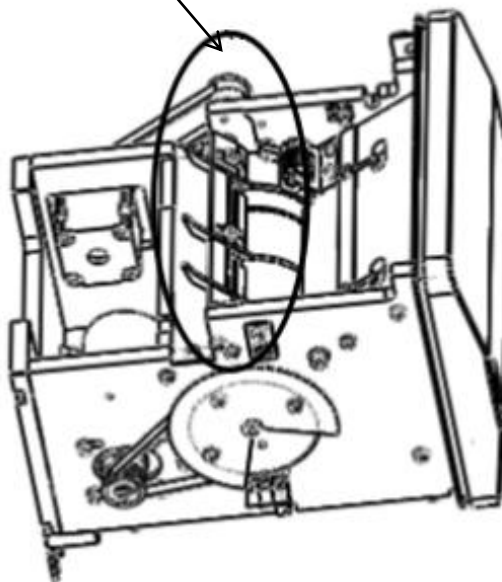

Figure 5-13
- 2) Clean the areas with the pump (Figure 5-13).